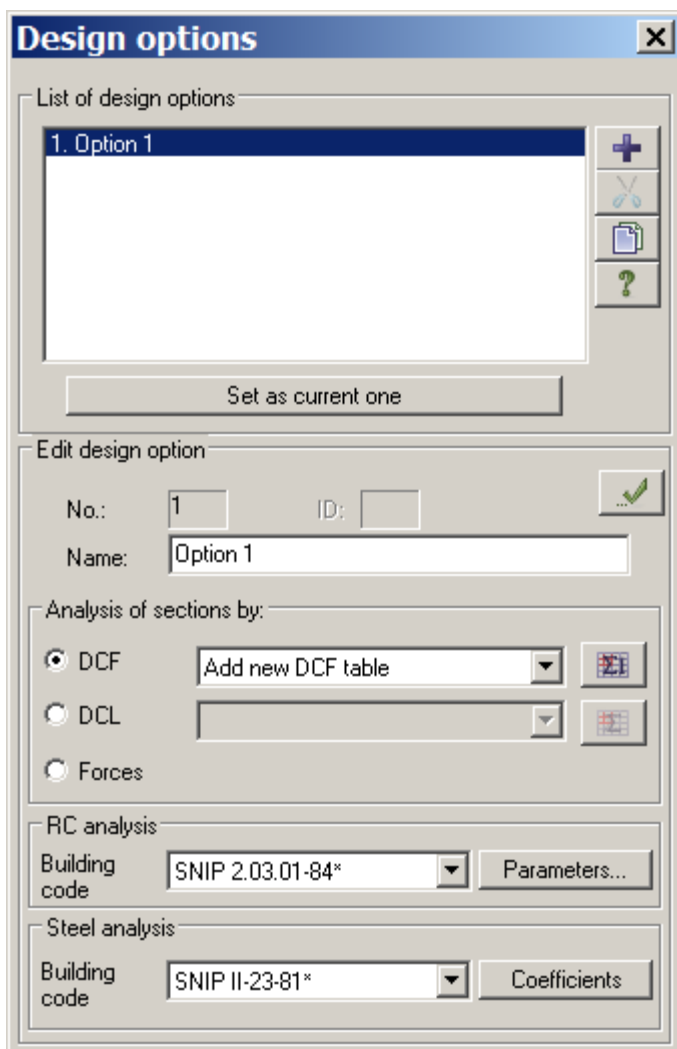

Figure 12.11 **Design options** dialog box
- ⇒ In the **Design options** dialog box (see Fig.12.11), define parameters for the first design option: